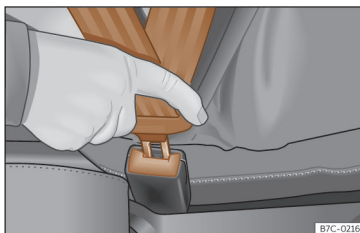

Fig. 20 Insert the latch plate of the seat belt into the buckle.
- Pull the latch plate and place the belt webbing evenly across your chest and lap. Do not twist the seat belt when doing so >>> **Fig. 20.**
- Insert the buckle plate in the buckle of the correct seat >>> **Fig. 20.**